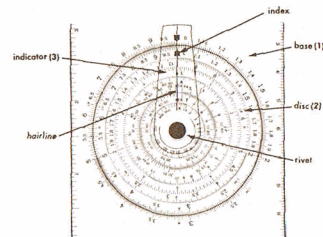

Figure 2
The circular slide rule has three major elements, the base (1), the disc (2) and indicator (3) (or cursor) attached to the base by a rivet (see Figure 2). The hairline is inscribed on the indicator. Index marks  and  are located at the beginning of the C and D scales.